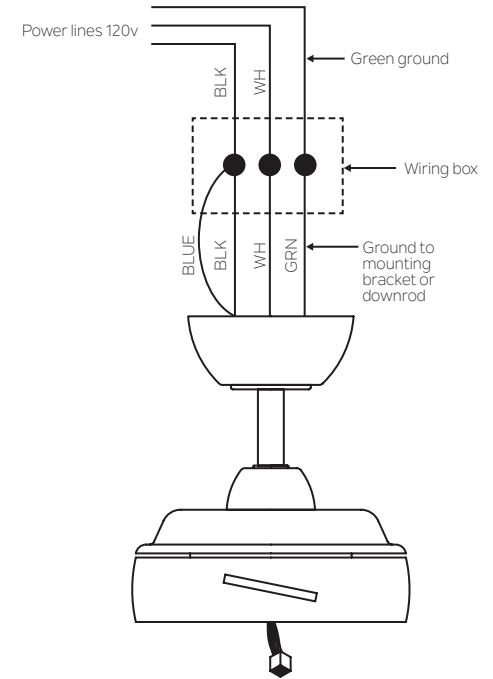

Fig. 12
**Step 1.** Connect the fan supply (black) wire and light supply (blue) wire to the black household supply wire as shown in Figure 12.